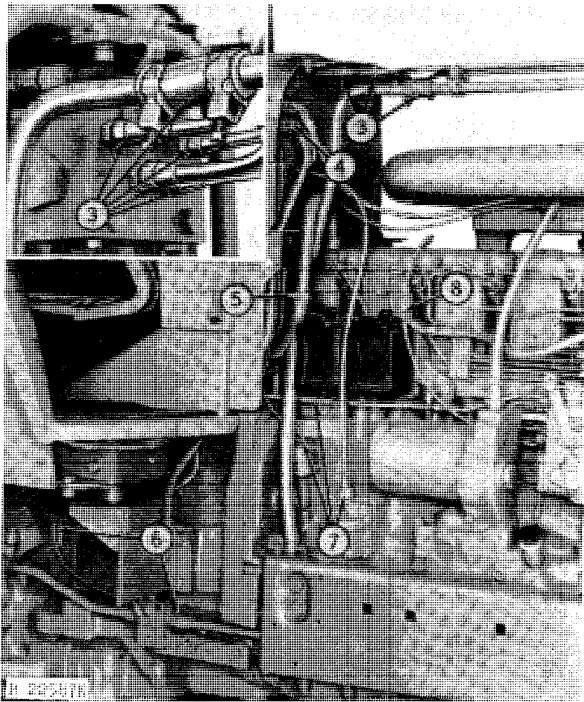
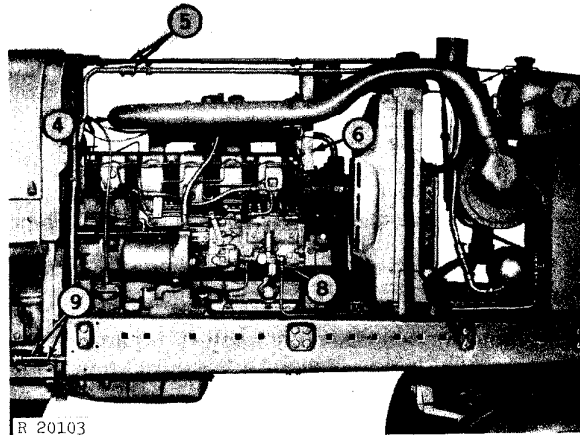

Fig. 9—Right-Hand Separation Steps
Fig. 16—Right-Hand Side of Tractor
3. Thoroughly clean area around steering pipes. Disconnect steering pipes and hydraulic cooler return pipe. Steering pipes on late model tractors are connected to steering valve at firewall (Fig. 9).
4. Disconnect wiring harness at connectors on firewall (Fig. 9). To do so, remove cap screw located in center of connector. Remove upper connector from lower connector. Disconnect start-safety switch and light wiring from connectors inside control support housing.
3. Remove the air intake assembly (up to turbocharger (Fig. 16).
5. Disconnect steering and cooler return pipes (Fig. 16). Steering pipes connect to steering valve at firewall on tractors having late model steering. See Fig. 9.